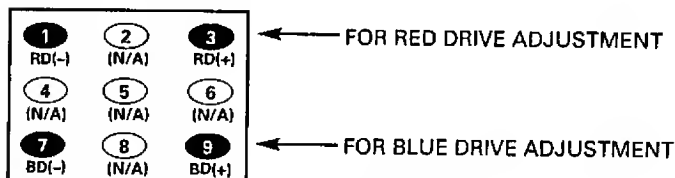

Figure 3. Remote Control Number keys' functions in Service Menu "Drive Level Adjustment"
14. Adjust Red and Blue Drive Levels alternately with 1, 3, 7, or 9 key to produce normal black and white picture in highlight areas. The Drive Level adjustment data will be written in the Service Menu No. 106 and 108 automatically. (See Figure 3.)